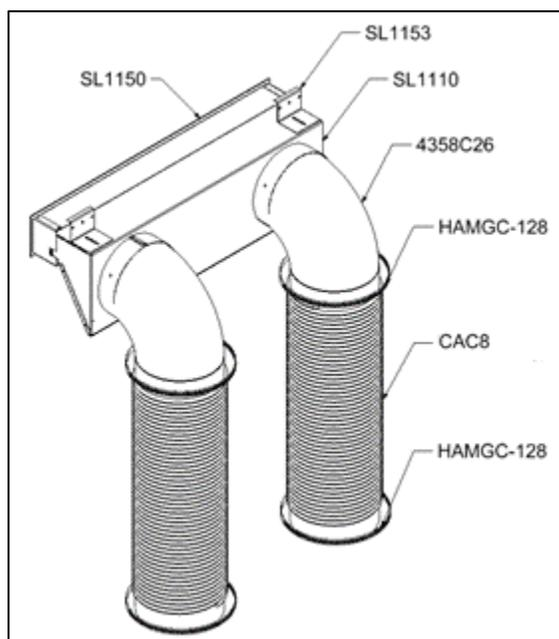

Figure 3-23: LV32 Assembly Diagram
The clean face surround comprises no louvers; however, an intake into the chase and outtake through gravity ducts is required for this surround configuration. The instructions below describe the installation of the intake openings and the single linear front gravity ducts/outtakes. Please note that the SUPREME LV32 kit is required for the Gravity Kit installation with a single linear front louver (Figure 3-23).
1. Install the linear duct/louver adapter (item SL1110 of Figure 3-23 and Table 3-5) onto the framing of the single linear front louver (Figure 3-24). The brackets of the SL1110 (SL1153 of Figure 3-23) are adjustable to accommodate different wall finishing materials (Figure 3-25).
2. Temporarily install one of the 90° elbows (4358C26 of Figure 3-23 and Table 3-5) on the linear duct/louver adapter (Figure 3-26) and measure the distance L indicated in Figure 3-27.
4. Add 3 inches to the distance L and cut the two CAC8 ducts (Figure 3-23 and Table 3-5) to that length.